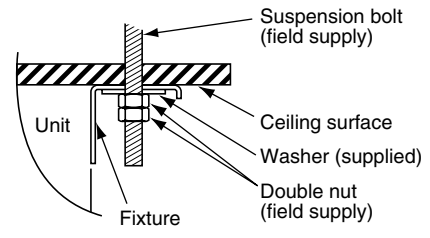
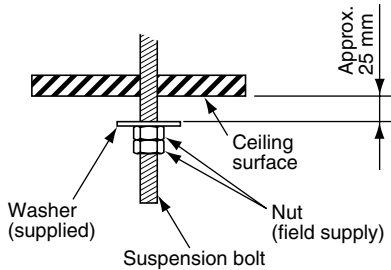

Fig. 3-43
Fig. 3-45
- (6) Carry out the preparation for suspending the indoor unit. The suspension method varies depending on whether there is a suspended ceiling or not. (Figs. 3-43 and 3-44)
- (7) Suspend the indoor unit as follows:
- a) Mount 1 washer and 2 hexagonal nuts on each suspension bolt (Fig. 3-45).